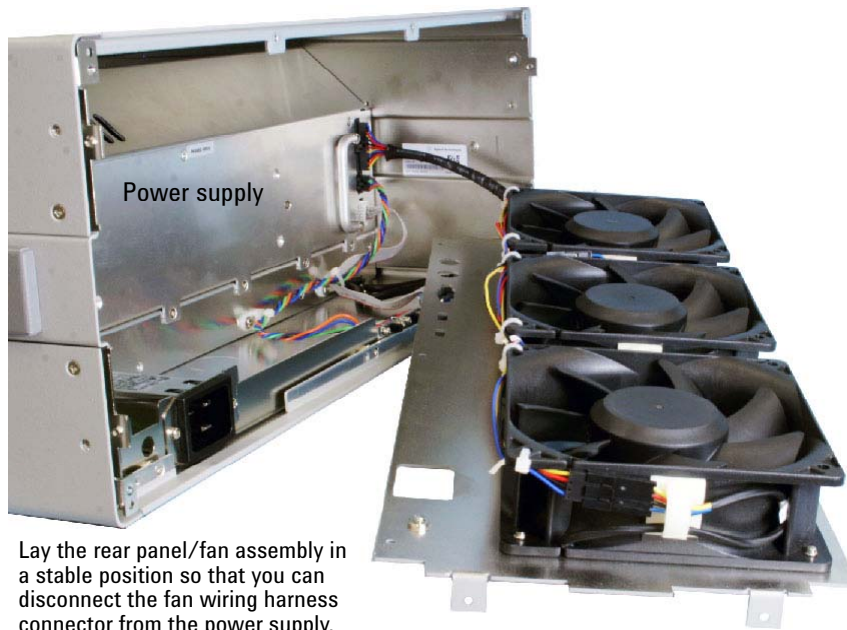

Figure 81 Positioning of the rear panel/fan assembly in preparation for disconnecting the fan connector
- 6** Next, lay the rear panel flat in a supported, stable position so that you can disconnect the fan wiring harness from the power supply as shown in Figure 81.
- 7 Position the rear panel/fan assembly in the position shown in Figure 81, and re-attach the fan connector. Ensure that the connector is fully inserted, and that you hear an audible click upon insertion.
- d** Position the rear panel/fan assembly in the position shown in Figure 81, and re-attach the fan connector. Ensure that the connector is fully inserted, and that you hear an audible click upon insertion.